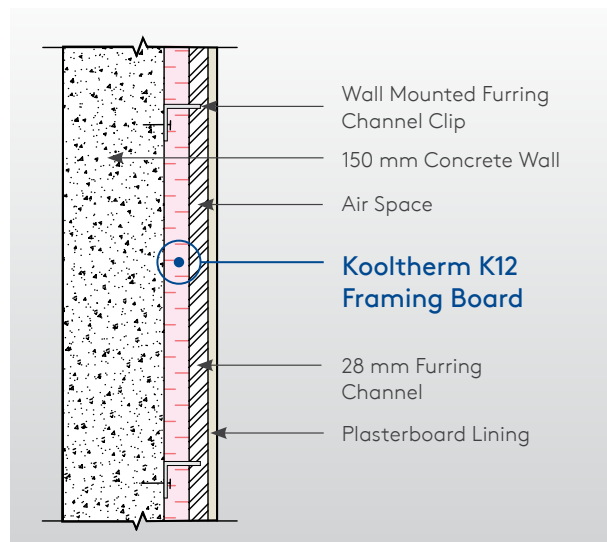

Figure 5. Side elevation of Kooltherm K12 Framing Board clip-and-channel system
2. Fit Kooltherm K12 over furring channel clips by pushing over the clips to abut the wall, and so that the wings of the clips penetrate the board. Care should be taken to avoid the foil facing of the Kooltherm K12 separating from the insulation core by neatly trimming the foil face at the point where the furring channel clip penetrates the insulation. See Figure 5.